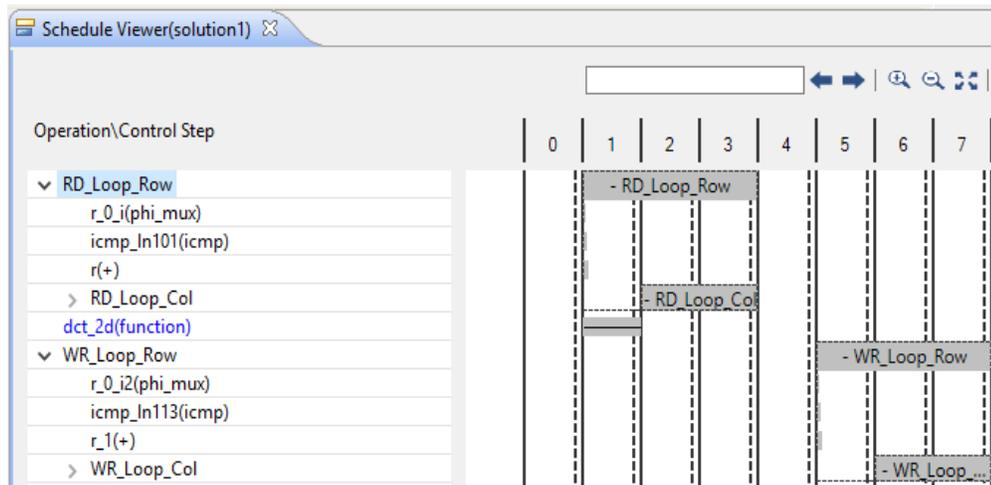

Figure 6-8: Expanded View of RD\_Loop\_Row
The Performance view is also shown (on the right side of Figure 6-8). This view shows how the operations in this particular block are scheduled into clock cycles.
2. Click loop **RD\_Loop\_Row** and sub-loop **RD\_Loop\_Col** to fully expand the loop hierarchy (Figure 6-8).